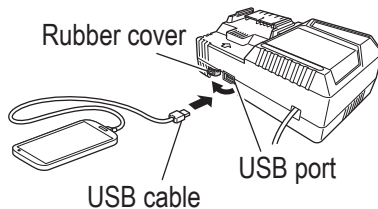

Fig. 24
2. Connect the USB cable. (**Fig. 24**)